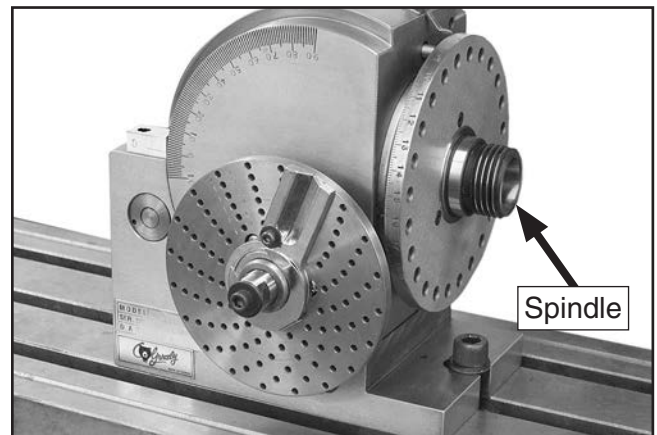

Figure 5. Tool installed on the mill table.
3. While aligning the keys with the center T-slot of the table, place the dividing head on the table with the spindle facing to the right, then secure it with the appropriate clamping hardware (see **Figure 5**).